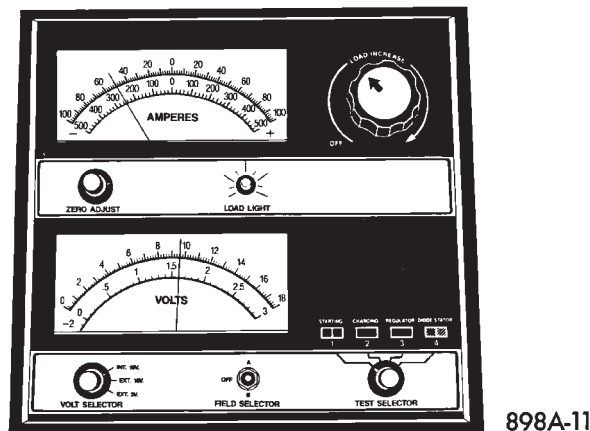

Fig. 9 Load 50% CCA Rating - Note Voltage - Typical
(4) Allow the battery to stabilize to open-circuit voltage. It may take up to five minutes for the battery voltage to stabilize.
(5) Rotate the load control knob to maintain a load equal to 50% of the CCA rating of the battery (Fig. 9). After fifteen seconds, record the loaded voltage